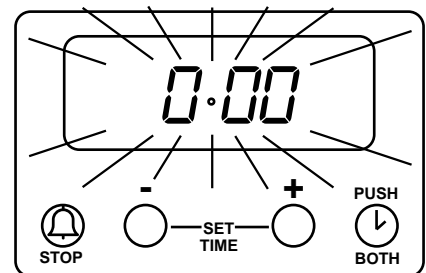
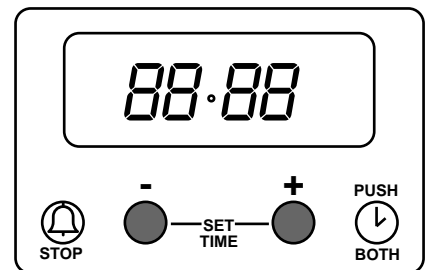
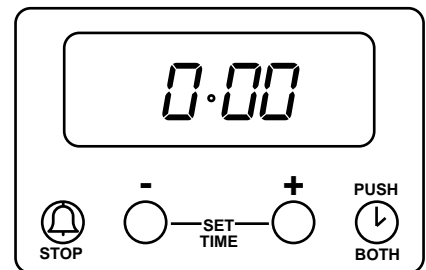

Fig. 6.2
Fig. 6.3
Fig. 6.4
Press buttons (1) and (2) together. The display will momentarily read **88.88**. See Fig. 6.2. Release buttons, **0.00** will appear in the display as Fig. 6.3. **Within 5 seconds** press button (2), **12.00** will show in the display as Fig. 6.4.